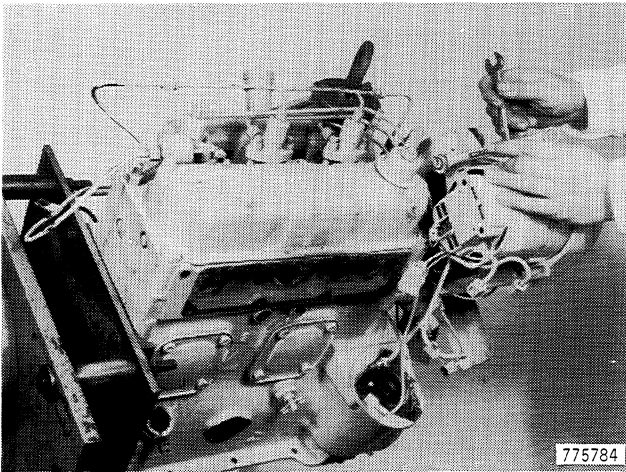

Figure 38
- 13. Remove the nut and lock washer from the stud that mounts the alternator, Figure 38.